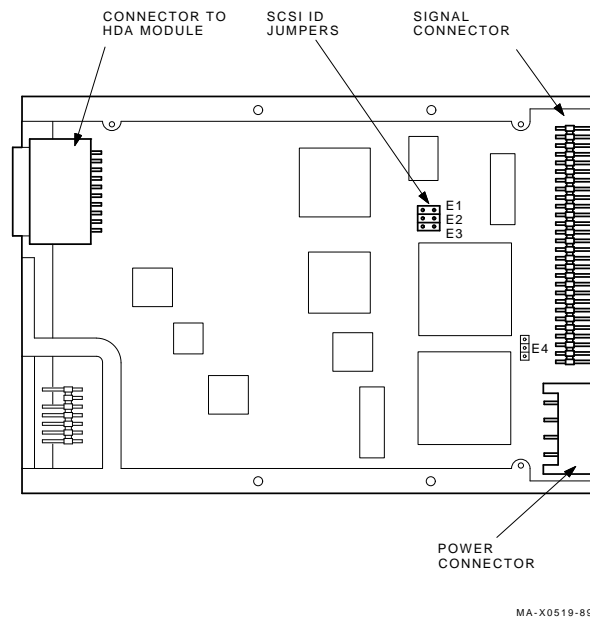

Figure 3-4 RZ23 SCSI Address ID Jumper Settings
1. Set the RZ23's SCSI ID jumpers to address ID 3. Refer to Figure 3-4 and the following jumper setting chart. If you need to install a second RZ23 disk drive, set the second RZ23 to address ID 2.